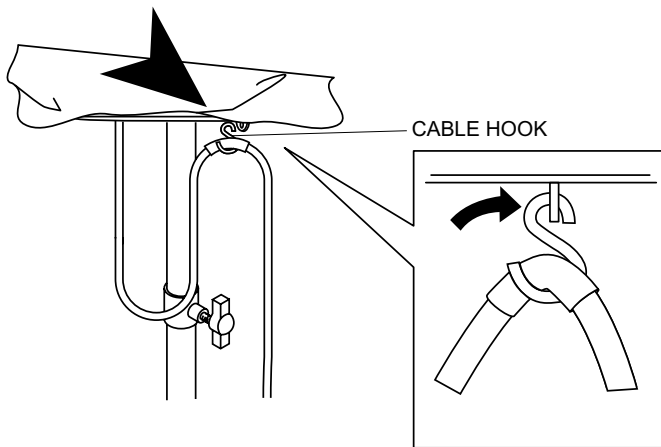

Figure 10. Securing Cable with Hook
8. Secure the power cable by hooking it to the eyelet on the bottom of the balloon as shown in Figure 10.